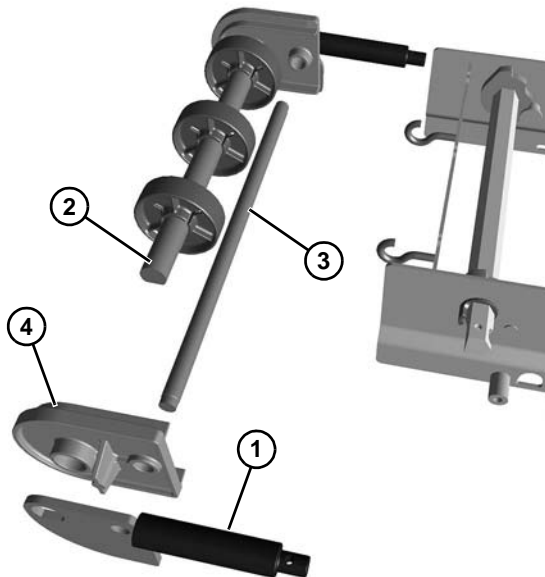

Figure 57
3. Remove the shaft assembly (Figure 57, item 1) from idler shaft (Figure 57, item 2) and pinch guard shaft (Figure 57, item 3).
4. Remove tracking plate (Figure 57, item 4) from idler shaft and pinch guard shaft.
5. Remove pinch guard shaft (Figure 57, item 3).